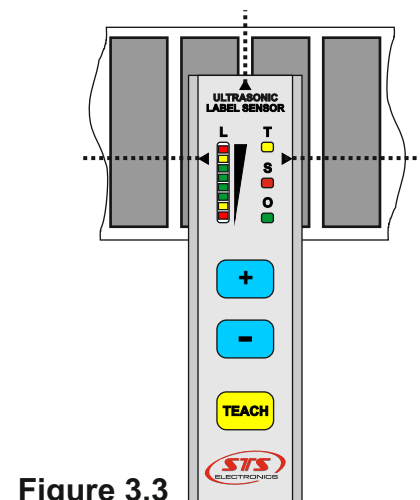

Figure 3.3
1. Part 1: Position the roll so that the liner (the gap between the labels) is under the sensor - see Figure 3.3